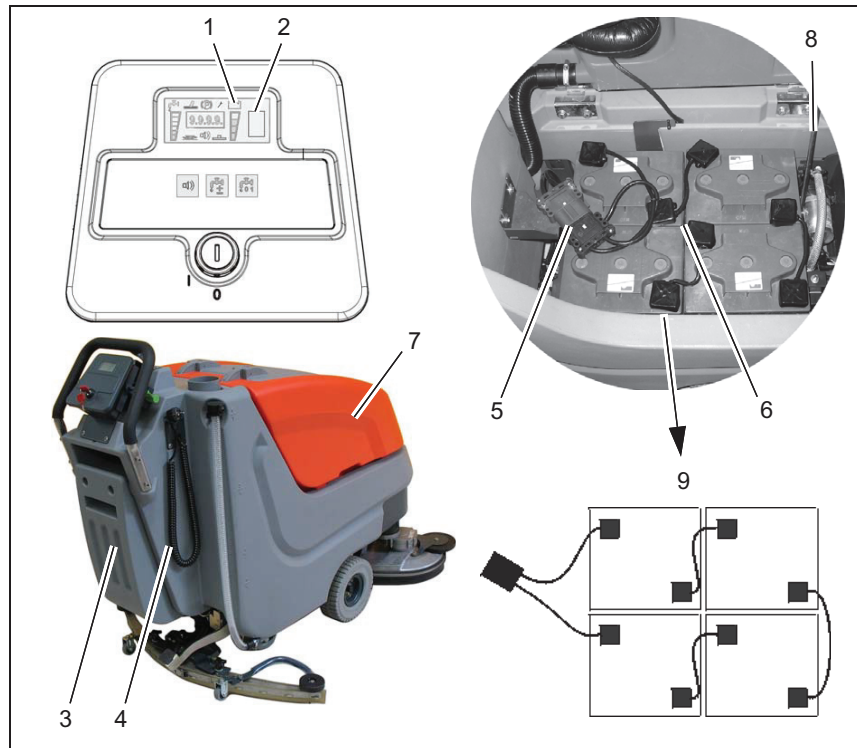

Fig.7
Use the integrated battery charger (Fig. 7/3) to charge batteries. Proceed to connection of the charger by means of the mains cable (Fig. 7/4) with safety plug. Charging batteries is recommended if at least one bar of the LDS display has extinguished after operation of the machine. On this behalf you are requested to observe the operating instructions of the charger 88-60-2723 as well as the operating instructions of the battery manufacturer.
3. Open empty soiled water tank (Fig. 7/7) and secure by support (Fig. 7/8).
4. Disconnect battery plug (Fig. 7/5).
2. Open empty soiled water tank (Fig. 7/7) and secure by support (Fig. 7/8).
4. Connect battery poles and enclosed connecting cables according to wiring diagram (Fig. 7/9). Provide for tight fitting and grease poles.